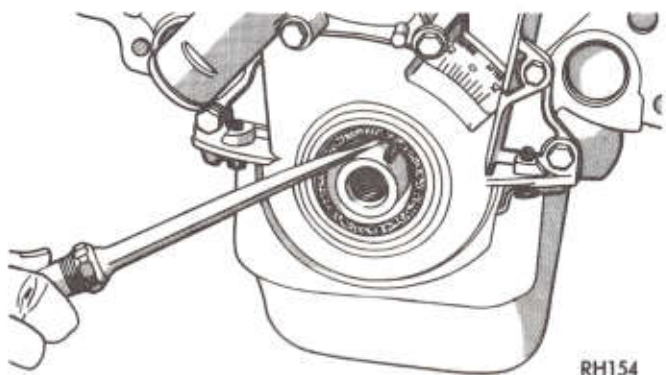

Fig. 26—Removing Oil Seal
(7) Using a suitable tool behind the lips of the oil seal pry outward, being careful not do damage the crankshaft seal surface of cover. (Fig. 26).